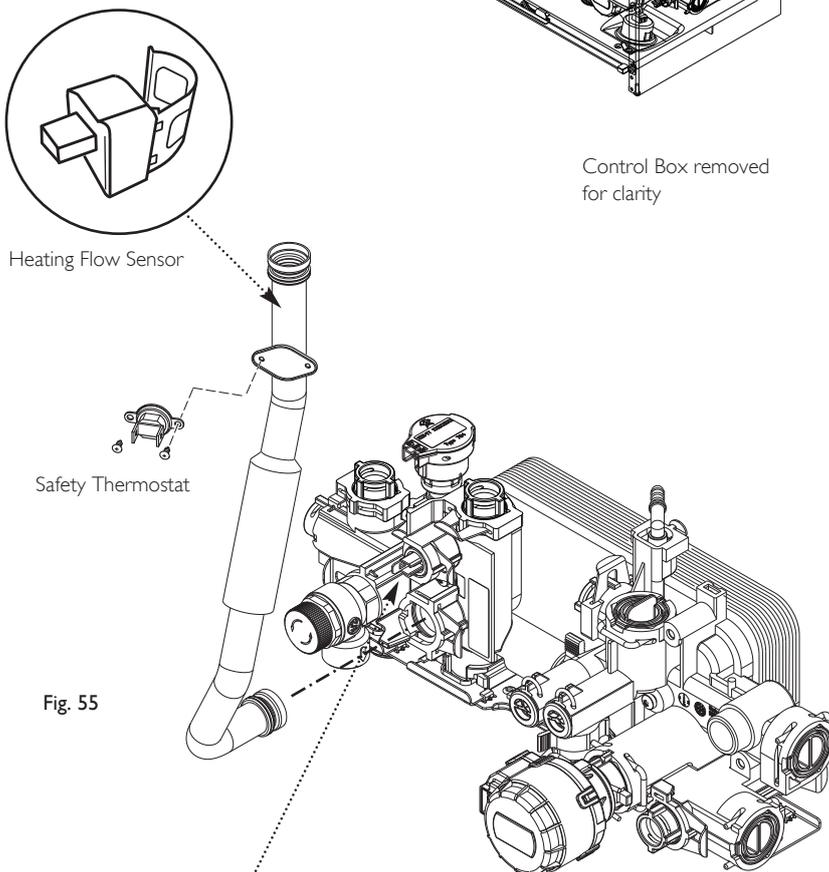

Fig. 55
13.7 Heating Flow & Return Sensors (Fig. 55)
13.8 Safety Thermostat (Fig. 55)